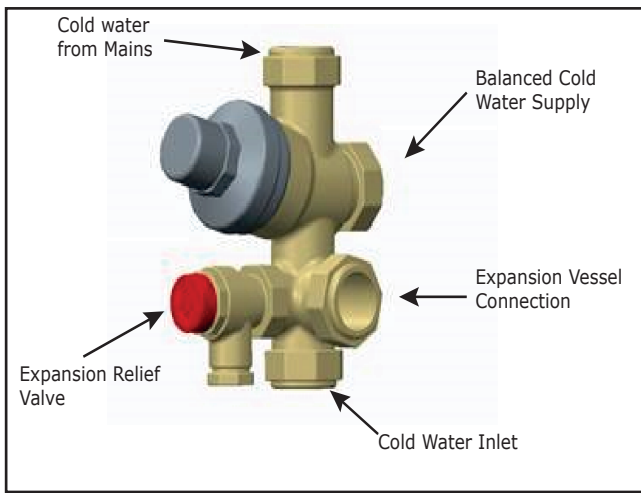

Figure 3: Detail Showing the Connection of the Expansion Vessel to the Inlet Group
**Note: The expansion vessel must be installed to the side of the expansion relief valve on the inlet group. To do this, the blanking plug must be removed and the expansion vessel connected, as shown in Figure 3.**